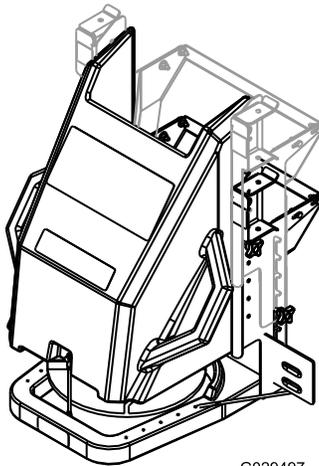

Figure 17
1. Remove the 2 upper thumbscrews (Figure 17).